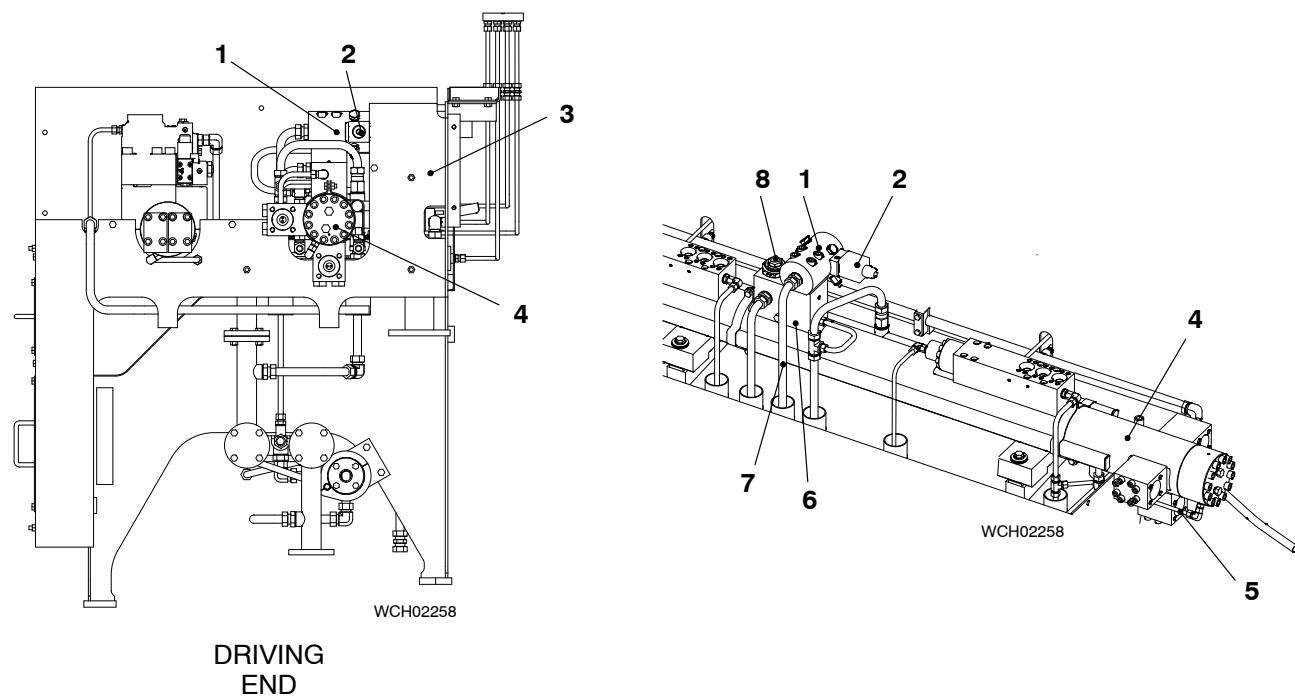

Fig. 1: Location of Pressure Control Valve
- 1) Install the inspection cover (5, Fig. 1).
- 2) Remove the blank flanges (1) (tool 94569a) and (3) (tool 94569).
- 3) Install the HP fuel pipe (4) (see the Maintenance Manual 8752–1 paragraph 3).
The engine software controls the fuel pressure. The pressure in the fuel rail is always less than that necessary to open the pressure control valve (PCV). The PCV (1, Fig. 1) is usually closed.